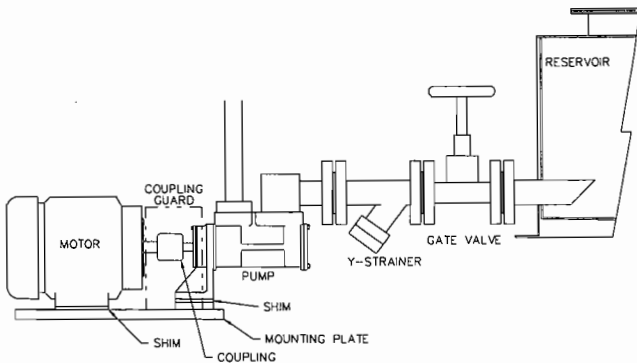

Figure 5. Horizontal Pump Mounting Assembly.
- Permanently installed Y strainers are located externally of the reservoir to allow for easy cleaning of the screen. This application requires additional components such as a suction isolation valve for the pump (Figure 5). The strainer typically is 100 mesh, which is intended to keep only coarse particles out of the pump. Our opinion is, if this strainer ever becomes clogged, it is time to enter the tank and clean it thoroughly. Therefore vertical pump mounts with internal strainers make the most economical design, as the extra pump suction isolation valve is eliminated.